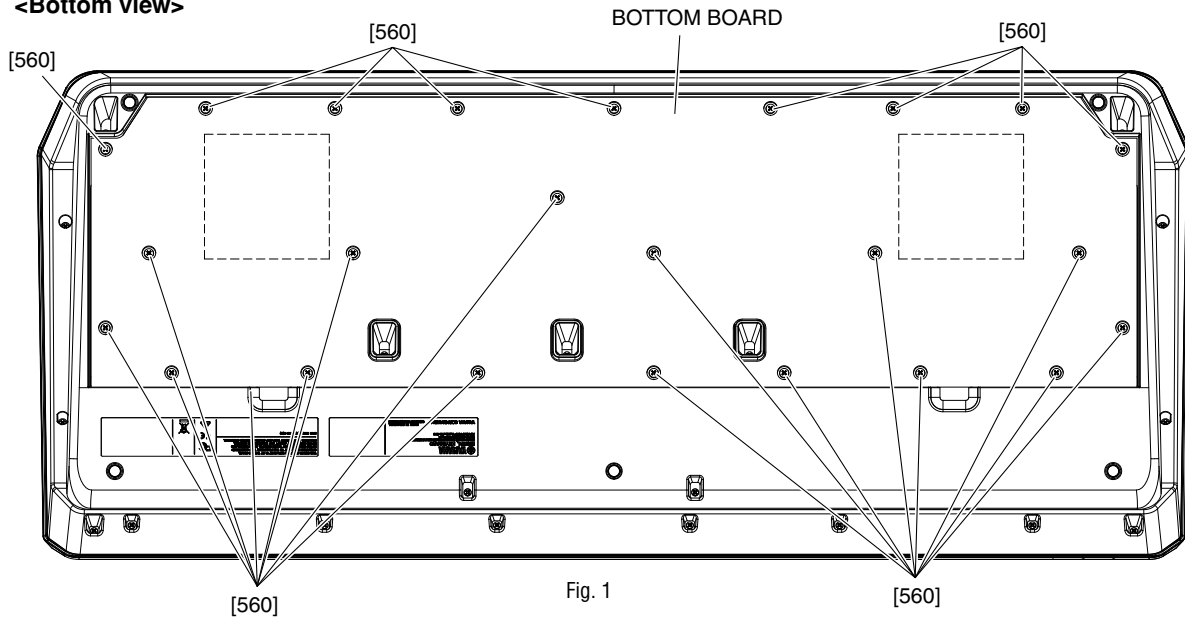

Fig. 1
Remove the twenty-four (24) screws marked [560]. The bottom board assembly can then be removed. (Fig. 1)